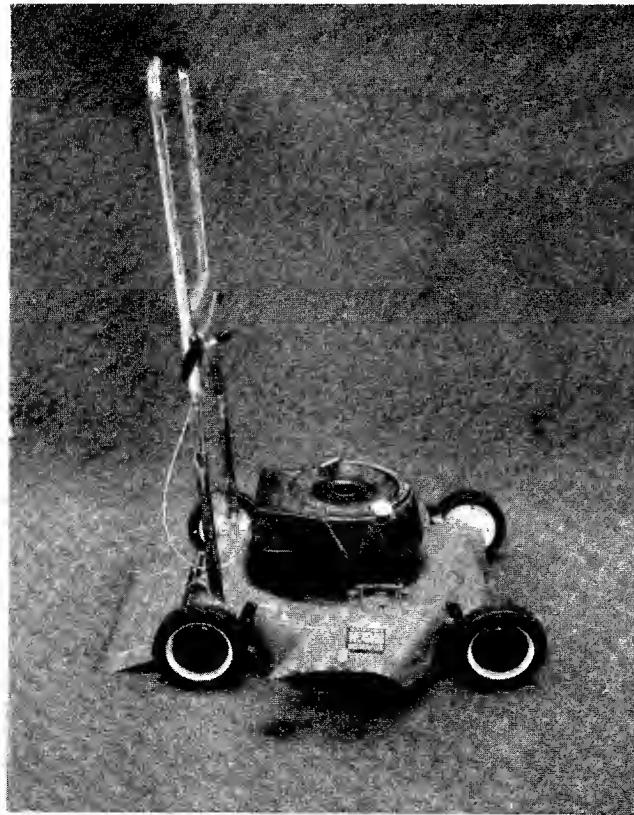

FIGURE 17.
Move the hairpin cotters to the outer hole on weld pins. See figure 1. Press inward on the bottom of the lower handle and push forward. The handle will lock in this position. See figure 17.
3. Pull inward on the bottom of each side of the lower handle and push forward. See figure 17.